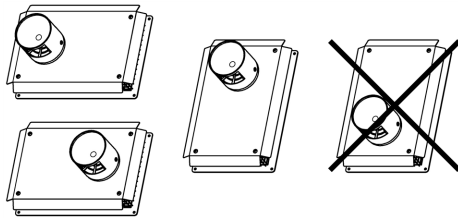

Figure 26 Allowed SST installation orientations
- » Install the SST with the vent and intake pipes horizontally beside each other or vertically with the vent pipe on top. The vent pipe cannot be installed below the intake. The vent cap must be installed with the openings directed up and down (see Figure 26), and not side to side.